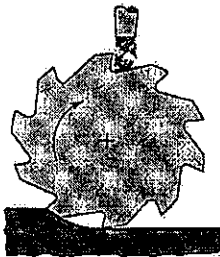

Figure 8
- (b) Figure 8 illustrates the use of cutting fluid in a machining process. Is the cutting fluid properly applied? Why do you think so? What are the major reasons for applying cutting fluid in machining processes? (5 marks)